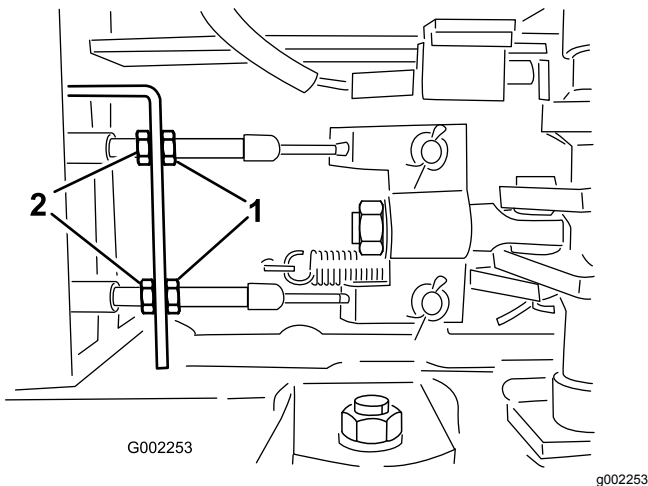

Figure 84
5. Loosen the front nuts on the brake cables under the front end of the sprayer (Figure 84).
6. Tighten the rear nuts equally until the brake pedal moves between 1 to 2 cm (1/2 to 1 inch) before you feel resistance (Figure 84).